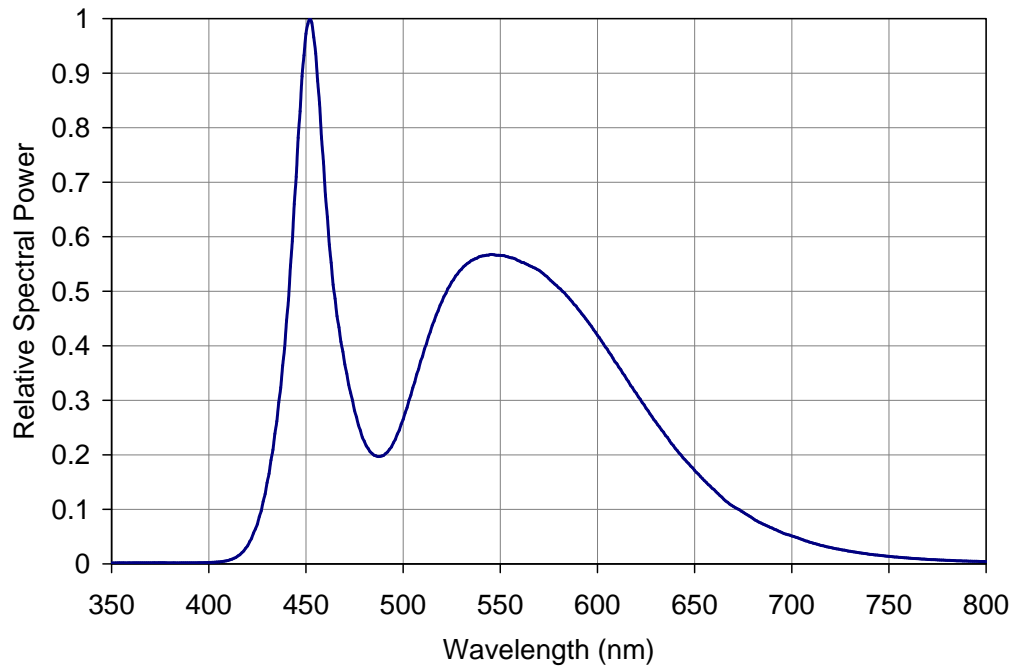

Figure 5: Relative spectral power vs. wavelength @  $T_c = 25^\circ\text{C}$ .
- Solder conditions per JEDEC 020D. See Reflow Soldering Profile Figure 5.